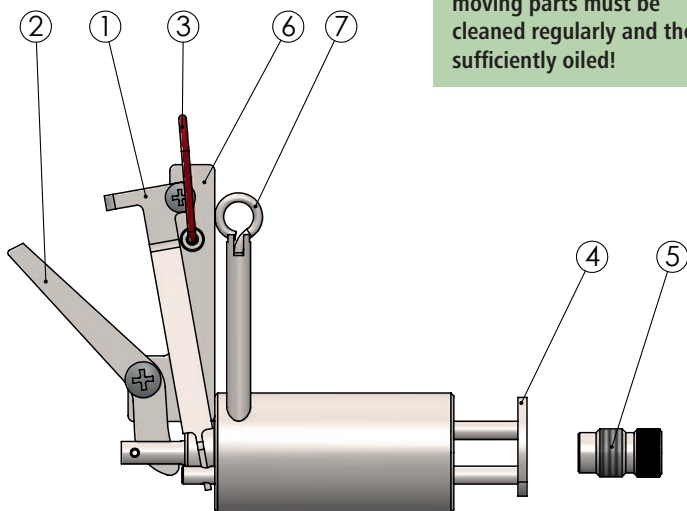
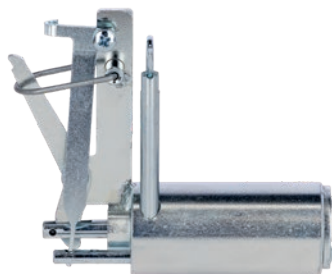
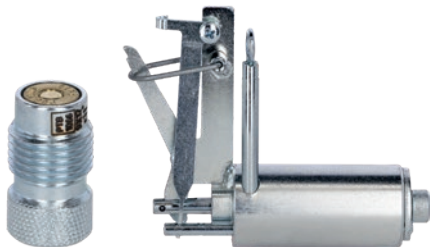

Fig. 3
Fig. 4
Fig. 5
1. Use your thumb to press the cocking piece (Fig.3, Item 2) in the direction of fire, fold back the safety ring (Fig. 3, Item 3) over the cocking piece (see Fig. 4). The device should only be put down and handled while in this state!
3. Introduce the yellow 9 x 17 mm cartridge into the cartridge holder (Fig. 3, Item 5). Fully and firmly screw the cartridge holder into the device (see Fig. 5).
5. Push the trigger (Fig. 3, Item 4) into the front end position and lock it with the help of the locking pin (Fig. 3, Item 7) (see Fig. 7).
7. Pull the locking pin (Fig. 3, Item 7) upwards and turn it 90° so that it is secured in the upper end position (see Fig. 10).
8. Fold the locking ring (Fig. 3, Item 3) forwards - the device is now armed and ready to fire (see Fig. 11).